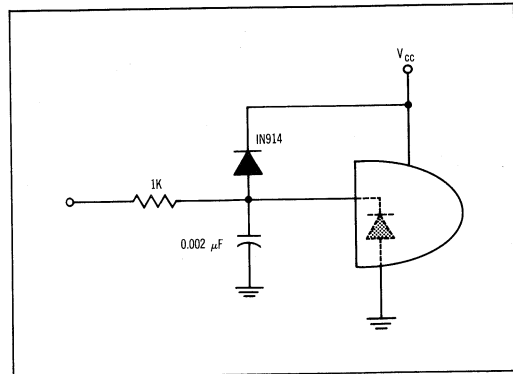

Fig. 9. This circuit is recommended when input protection is needed. The internal substrate diode forms part of the protection circuit.
Operating practices for HNIL do not differ significantly from those for TTL, but the power supply can get by with much less regulation. And power supply bypass capacitors are not needed on the individual p-c boards because there are no output high current spikes. Other than that, the devices behave exactly like any other current-sinking logic. They have typical input breakdown voltages of 30 v to 35 v, but still need protection from potentially damaging high voltage spikes. Users who would never consider hooking an unprotected TTL input to a long line will do so with HNIL. Even though HNIL's relative high input breakdown levels are considerably better than TTL, the devices should still be protected. A suitable input protection circuit is shown in Fig. 9.
Although the circuit of Figure 1 is accurate enough for a basic knowledge of 347 usage, the complete logic diagram of Figure 8 is required to understand the detailed operation of the circuit, particularly the differences in the three functional modes. In mode 1, with A as the input terminal, B is grounded and I is high. In the steady state, when A is low (prior to firing), gate 4 output (E) will be high along with gate 3 output (H). With these two inputs high, gate 5 output (F) will be low, latching E high. Gate 3 is now enabled, ready for a high on A to trigger the device. See Figure 9. The input to the Schmitt trigger is H, so the output, J, is also high, setting Q low and  $\bar{Q}$  high in anticipation of the trigger pulse. The capacitor is charged to the zener voltage. When A goes high, H starts low, discharging C. During the downward transition of H, the Schmitt trigger fires at Point 2 and Q goes high. When H reaches Point 3, the threshold of gate 5, F goes high and E latches low, shutting off gate 3 and H starts toward  $V_{CC}$  again, with C charging through R at time constant RC. When C becomes charged to the upper threshold of the Schmitt, (Point 1 on Figure 9) Q goes low again. The timing cycle is complete.